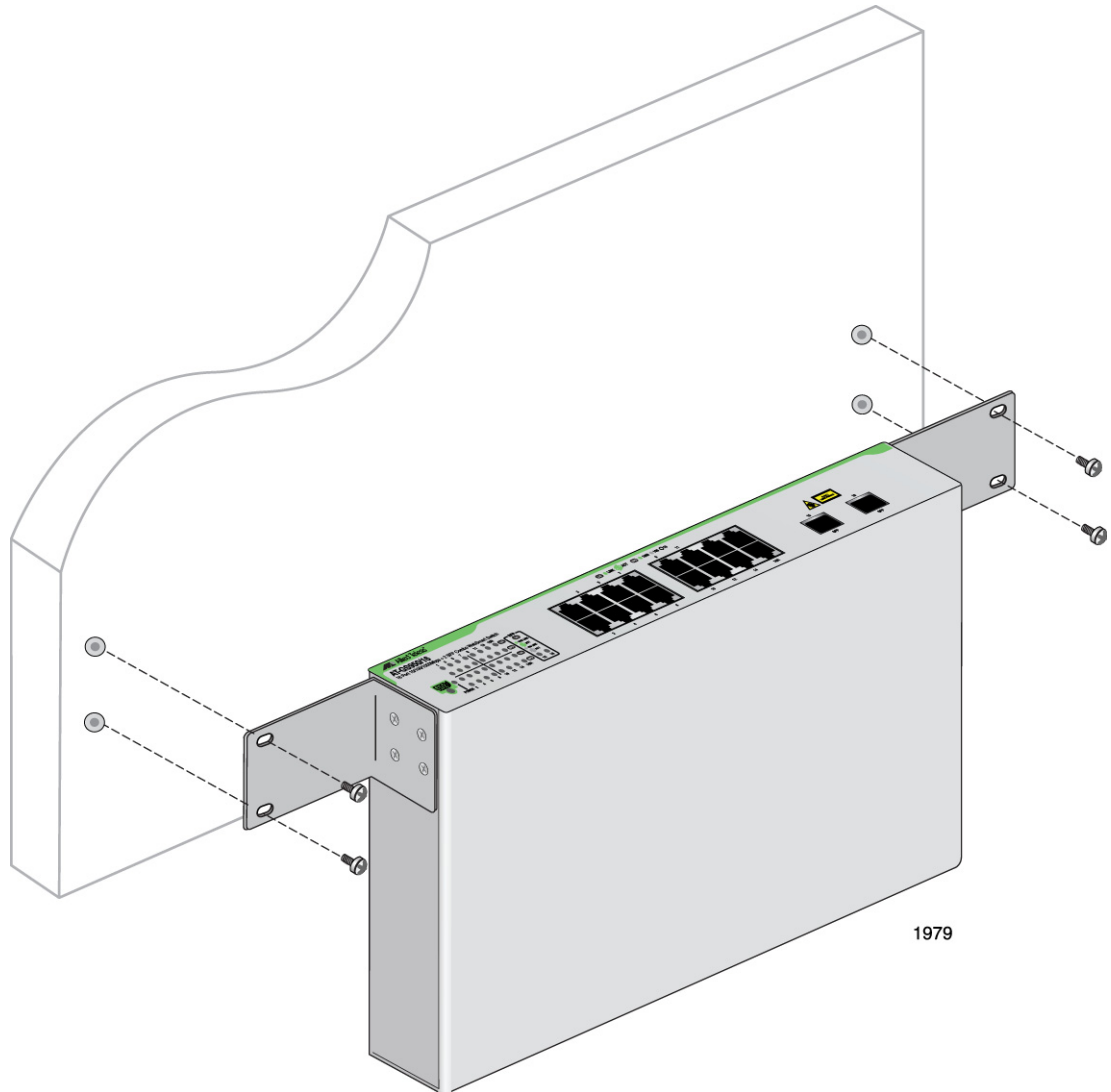

Figure 11. Securing the Switch to the Wall
6. While another person holds the switch at the wall location, secure it to the wall using the four wall mounting screws. See Figure 11 on page 37.